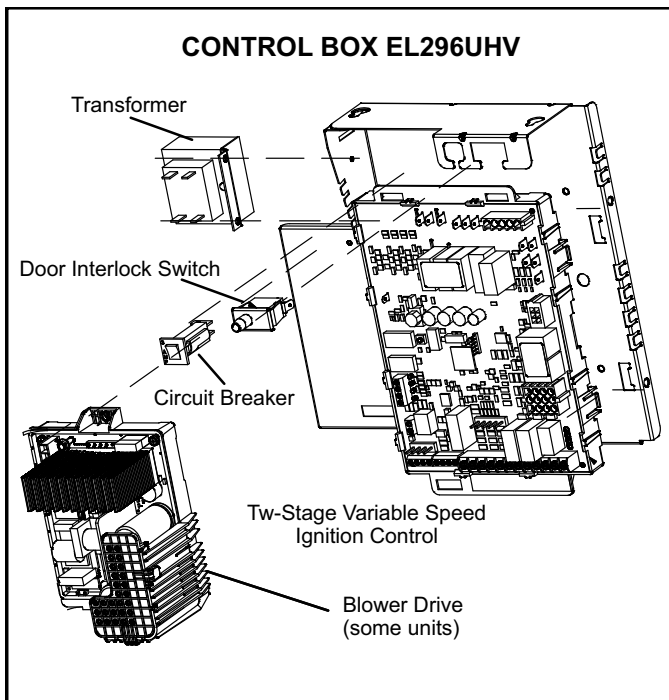

FIGURE 2
EL296UHV(X) unit components are shown in figure 1. The gas valve, combustion air inducer and burners can be accessed by removing the access panel. Electrical components are in the control box (figure 2) found in the blower section.